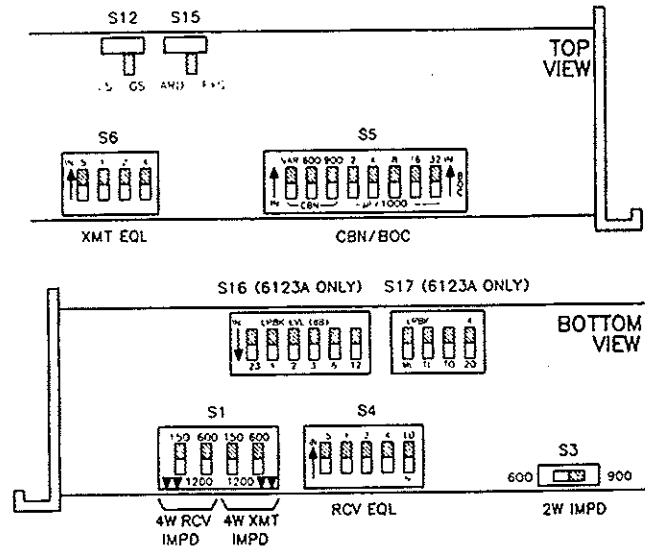

figure 8. 6123/A option switch locations
3.06 Several option switches much be set before the 6123/A is placed into service. Locations of these switches and of certain alignment switches on the module's printed circuit board are shown in figure 8. Table 6 summarizes all switch options and provides a convenient **checklist** column that can be filled out either prior to installation for prescription optioning or during installation to serve as a record for later reference. Refer to figure 8 and table 6, and set each option switch on the 6123/A as required.